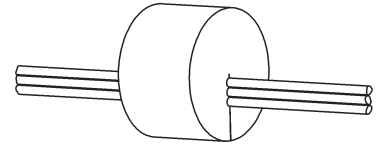

Fig. 10:
- **Conduit** – Included with the CO₂ transmitter is a foam plug to seal the ½ inch EMT. Place the wires into the plug as shown in Fig. 10 and then insert the plug into the conduit sealing the conduit.